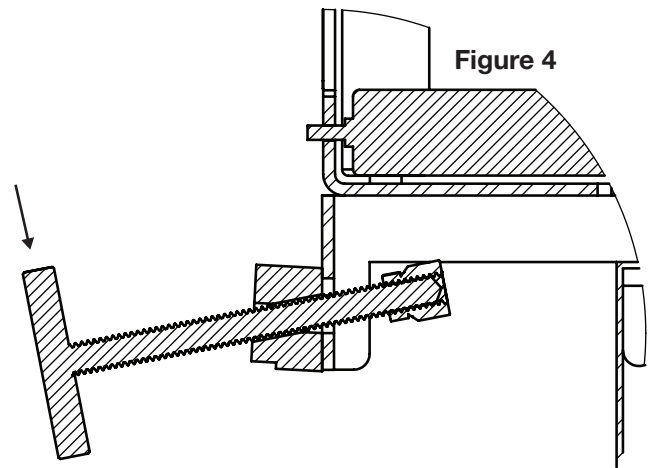
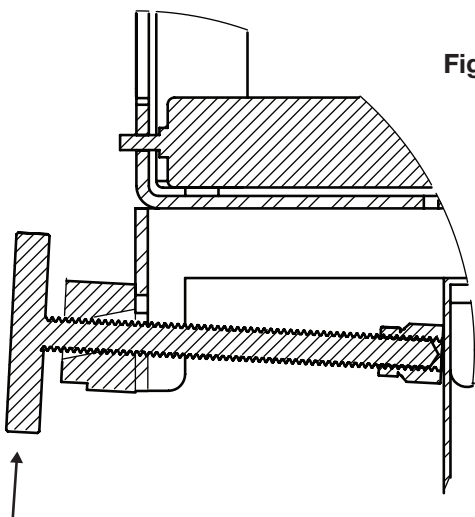

Figure 4
Figure 5
- To secure the roller on the cable tray, tilt the handle as shown in Figure 4 and push the handle until its pad contacts the web of the tray's beam. Then, tilt the handle into the original orientation, as seen in Figure 5, and turn the handle clockwise until tight.
- To remove the roller from the cable, turn the handle counter-clockwise to loosen, then tilt the handle (as shown in Figure 4) to remove it. The roller may now be removed from the cable tray.